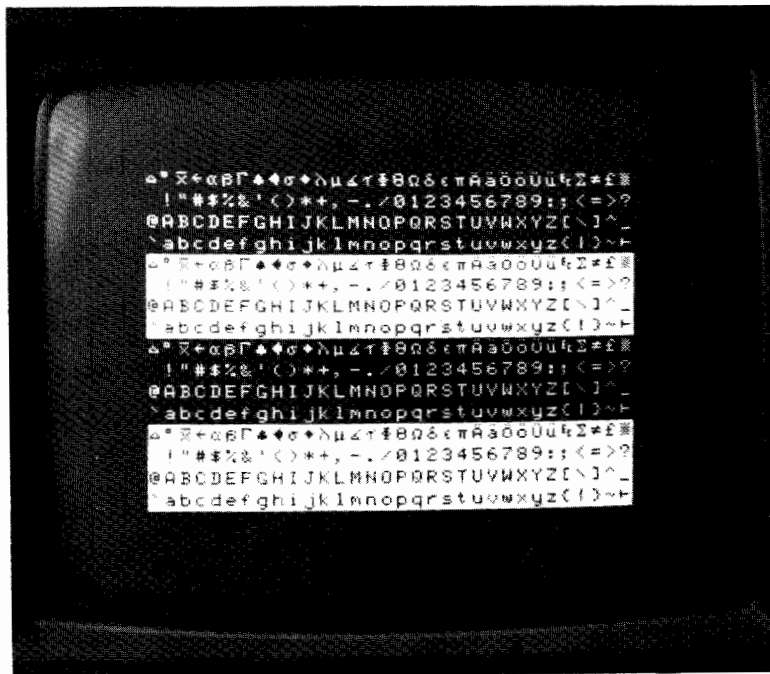

Figure 5-1. Test Pattern
4. Connect the monitor to a power source and turn it on. If a picture can be obtained, attempt to correct any problems using the adjustment procedures in section IV. The correct test pattern is shown in figure 5-1.